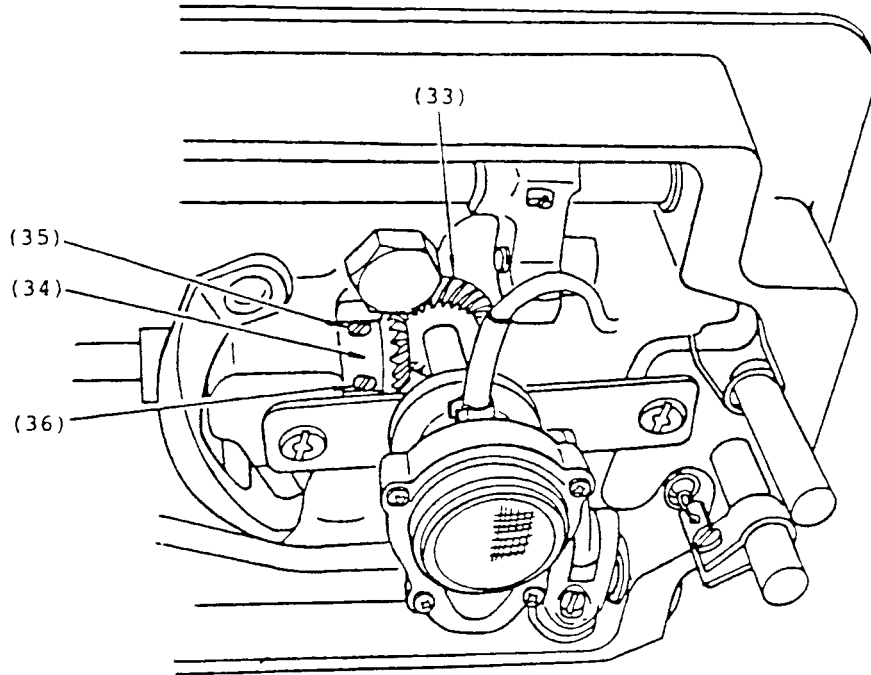

Fig. 19
2. Mark the two lower bevel gears (33) and (34), Fig. 19, with chalk or crayon, on one tooth of one gear and the corresponding space for that tooth in the other gear. This is important, as these gears may become separated during removal of shaft. These marks will then make it possible to obtain the original mating position of the gears.
3. Loosen the two set screws (35) and (36) in hook shaft bevel gear. While holding the two gears (33) and (34) in mesh, as instructed in Fig. 19, withdraw the old hook shaft and INSERT THE NEW SHAFT.
5. Make certain that set screw (35) seats over flat on the hook shaft. Remove all end shake from hook shaft, pushing gear (34), Fig. 19, toward the hook on the shaft. Securely tighten first set screw (35), then securely tighten the second screw (36)
2. Follow the instructions in Steps 2 and 3 for removal of hook shaft on page 11 except that, instead of removing hook shaft, merely remove hook shaft bevel gear (33), Fig. 19.
4. Mark the two bevel gears (46), with chalk or crayon on one tooth of one gear and the corresponding space between the teeth of the other gear so that these gears may be re-assembled in their original relative positions without difficulty, if necessary.
5. Loosen set screws (47) in bevel gear at upper end of upright arm shaft. To loosen set screws (47), remove screw (48) in the rear of the arm and insert screwdriver through the hole.
6. While holding upper bevel gears (46) in mesh, draw upright arm shaft (45) down and out of machine.
1. Before installing upright arm shaft, make certain it has the bevel gear (33), Fig. 19, correctly fastened at the lower end of shaft.